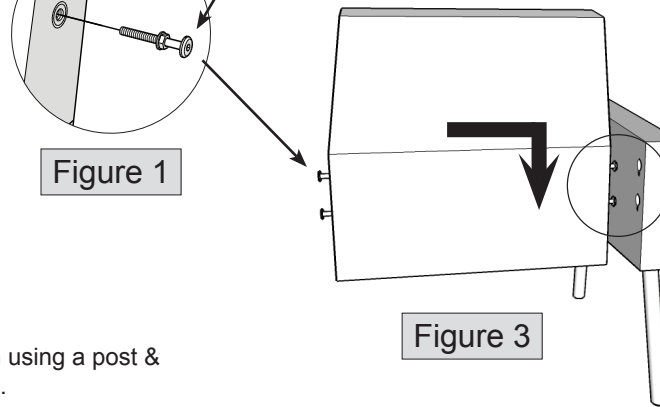

Figure 3
4. Attach back cushion to arm frame by inserting posts into keyhole slots, as shown in figure 3. With posts fully inserted, press back cushion down until posts "bottom-out" in slots.